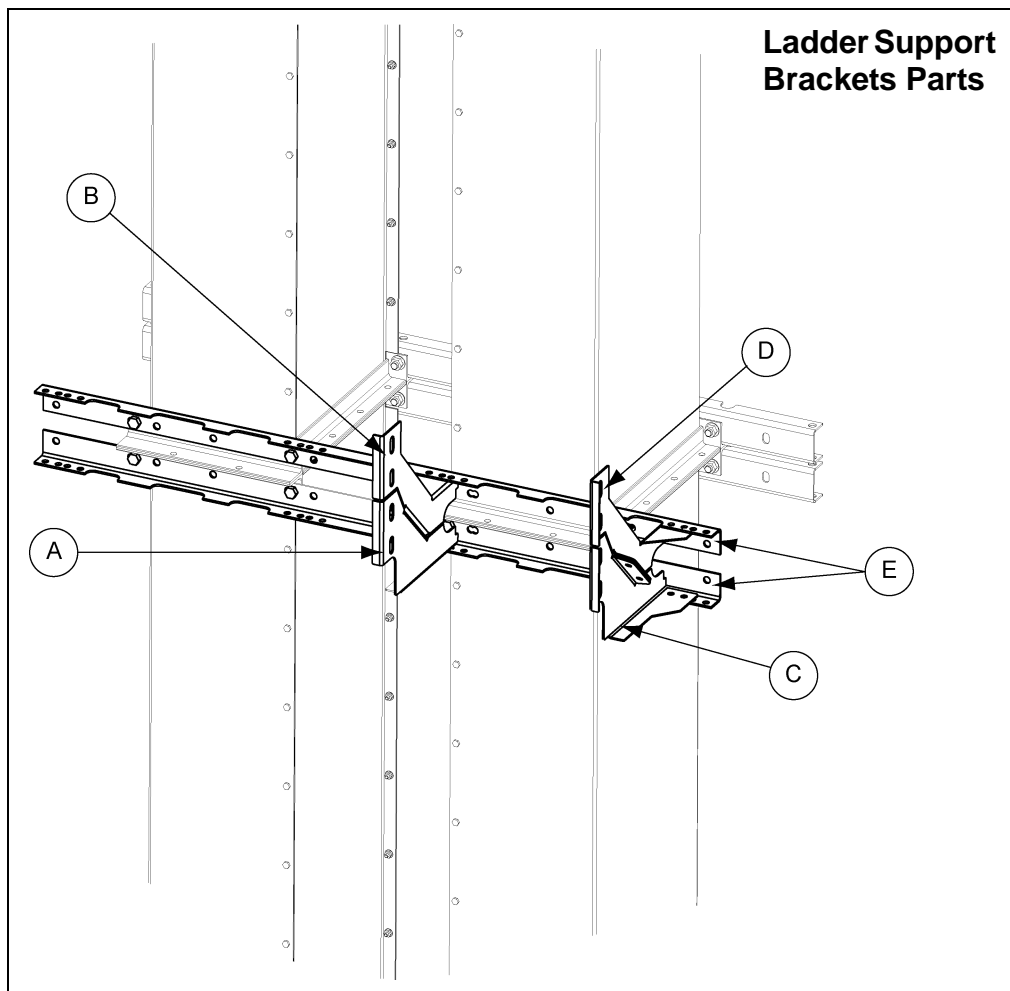

Figure 6L Ladder Support Bracket Parts
1. Attach ladder support brackets to tie angle using 3/8" x 1" hex bolts (S-7469). Use the holes shown in Figures 6L-6P on Pages 28-30 for each size elevator.